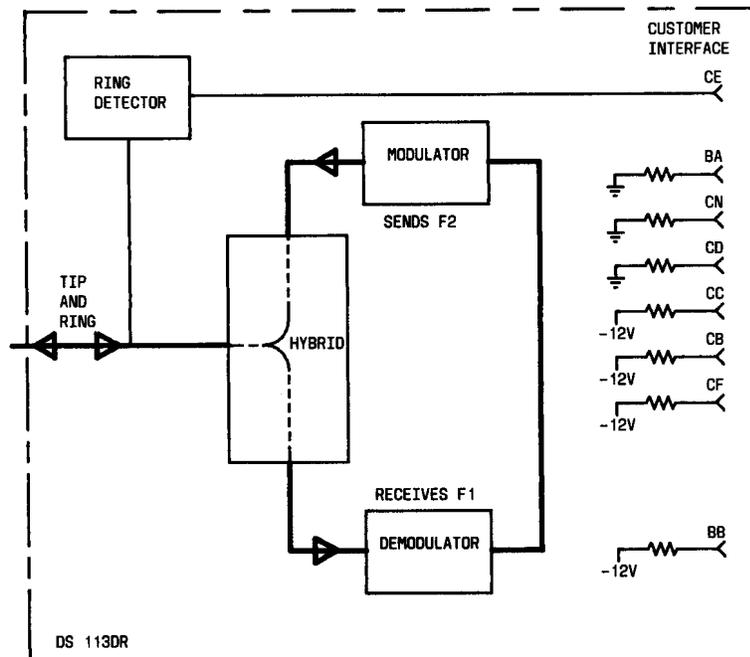

Fig. 4—Digital Loopback Test Mode
2.12 Entering the digital loopback test mode (Fig. 4) causes the data set internally to loop BB (receive data) to BA (send data) and simulate an *on* condition of the CD (data terminal ready) circuit. In addition, this causes the following to occur: